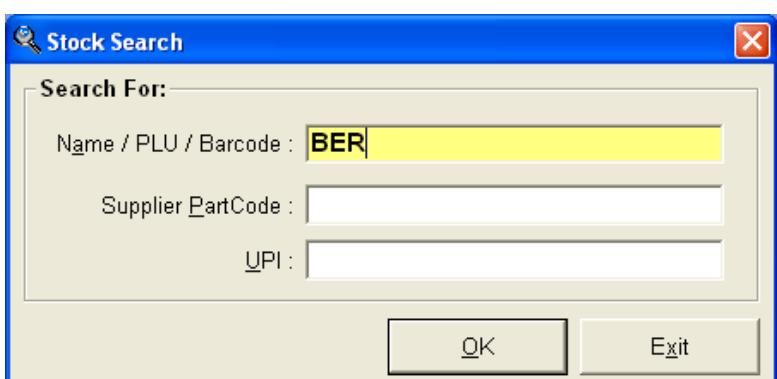

Figure 282
9. To add items to your blank order select the [insert] key. The 'Stock Search' window will display (as shown in Figure 282).